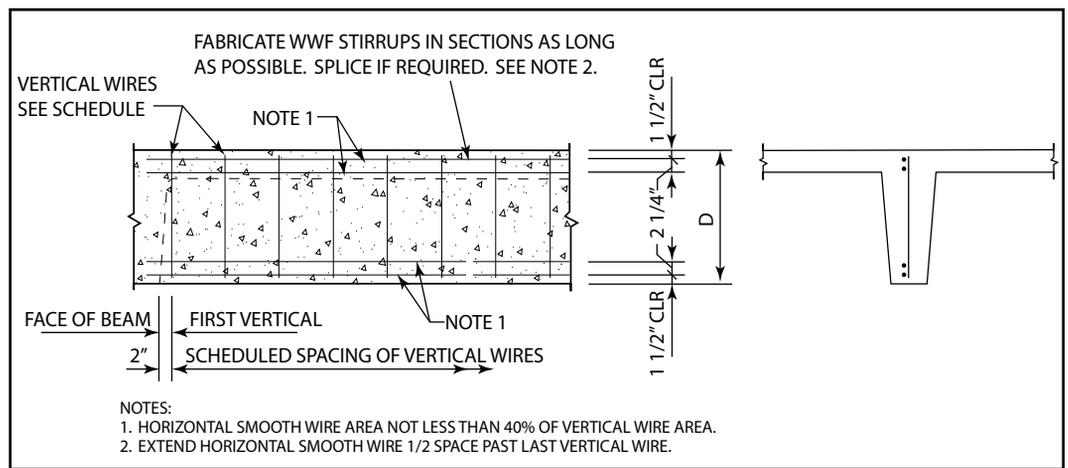

Figure 1: WWF Stirrups.
- Minimum spacing values often control when designing beam stirrups, thus the smallest practical size (generally #3 stirrups for beams) will be the most economical. Where pan systems are used to form narrow joists, it is common to use welded wire fabric for shear reinforcing. See *Figure 1 (page 44)* for an example.